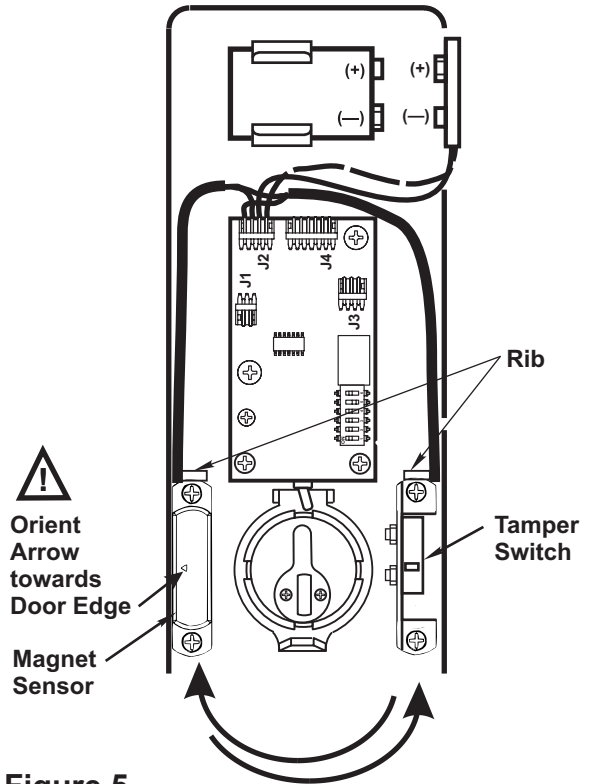

Figure 5
1. Remove (2) screws retaining the magnet sensor and set components aside.
2. Remove (2) screws retaining the Tamper Switch and exchange locations of both components (See Figure 5).
3. Reattach components with the screws. **NOTE:** a. The arrow on the magnet sensor should face outward, towards the edge of the door (See Figure 5).